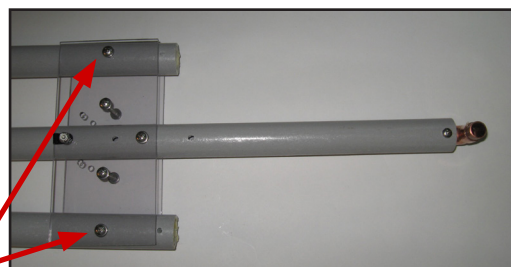

Fig. 54
- Reposition the Element Sub-Assemblies and ensure that the orientation is unchanged. Align the hole in each Element Sub-Assembly with the holes in the top and bottom Element Mounting Plates as shown in Fig. 54. Fasten each Element Sub-Assembly to the Boom-End Sub-Assembly by placing a No. 10 SS Flat Washer over a 10-24 x 2.0" Machine Screw, then pass the screw through the top mounting plate, the element, then the bottom mounting plate. Place a No. 10 SS Flat Washer and then a 10-24 Anti-vibration Hex Nut over each screw. Tighten the fasteners finger-tight.